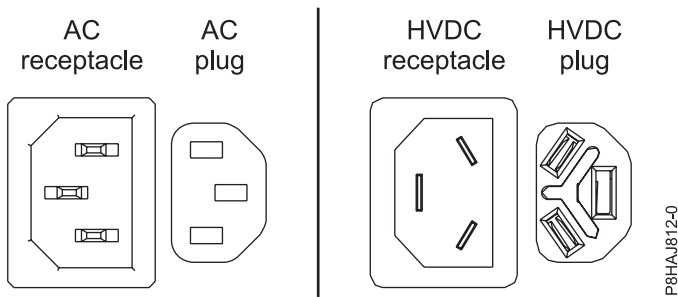
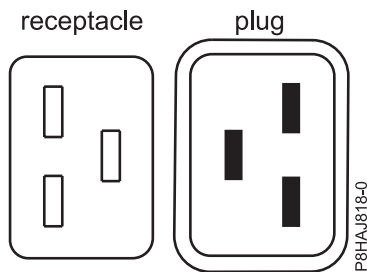
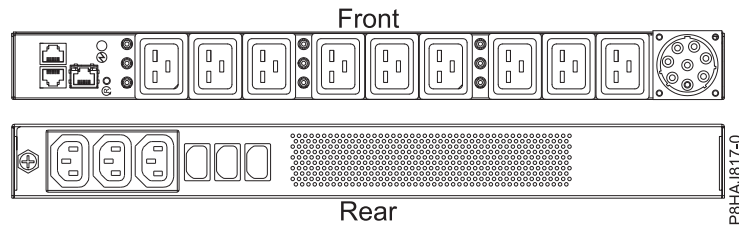

Figure 33. AC and HVDC connectors
Figure 34. Connectors for the 8408-44E system
Figure 35. PDU for the 8408-44E system
- The power cord is fastened to the system using the hook-and-loop fastener (A). If you are placing the system in a service position after disconnecting the power cords, then ensure that you unstrap the fastener.
Figure 33 shows the supported alternate current (AC) and high voltage direct current (HVDC) connectors. Figure 34 and Figure 35 show the supported connectors and power distribution unit (PDU) for 8408-44E.